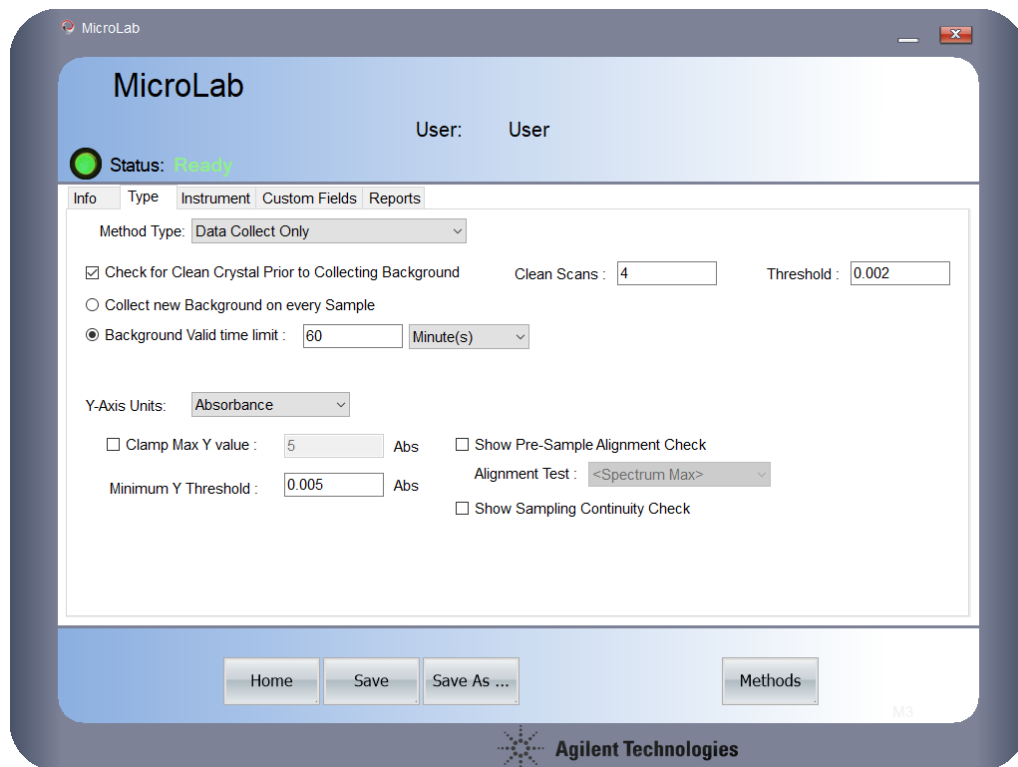

Figure 1. Method parameters
- 6 Set the parameters as shown in Figure 1.